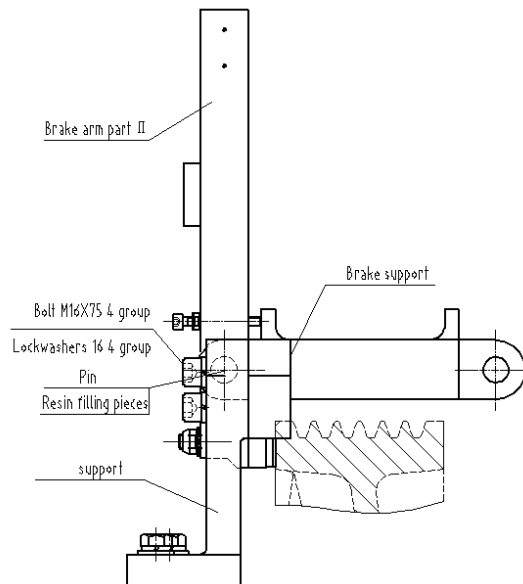

Figure 31 Emergency Brake Installation
1. Place the Brake arm part II into the Brake Support; put two (2) Resin filling pieces into the gap which between Brake arm part II and Brake Support (both sides). See figure 31.
2. Insert the Pin into the hole from Brake Support to Brake arm part II. See figure 31.
3. Install the Brake support onto the Support, and attach it with (4) Bolts M16X75 and lock washers 16.